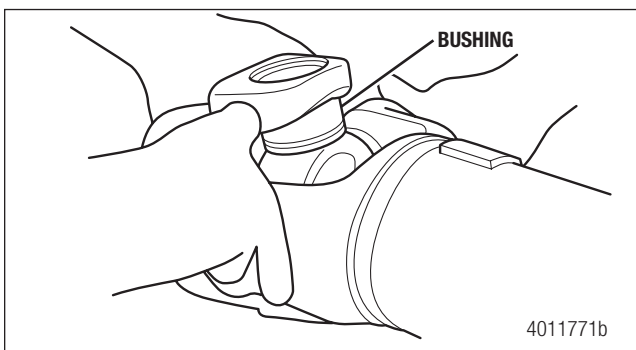

Figure 5.99
9. Rotate the assembly 180 degrees (turn it over). Figure 5.99.